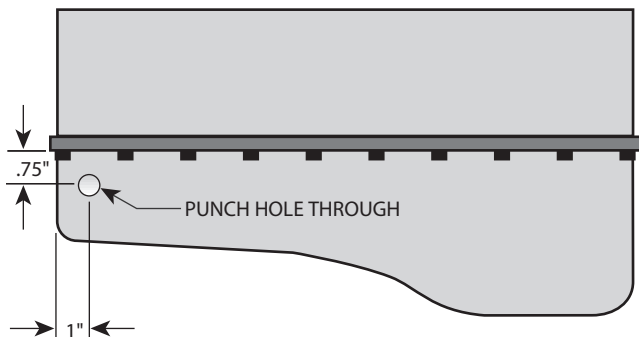

Fig. 4.2-a
- D. Tap the hole with a 3/8"NPT tap approximately 1/4" deep. Pack the flutes of the tap with heavy grease to hold the chips. Use a small magnet to check for any stray chips. Fig. 4.2-a